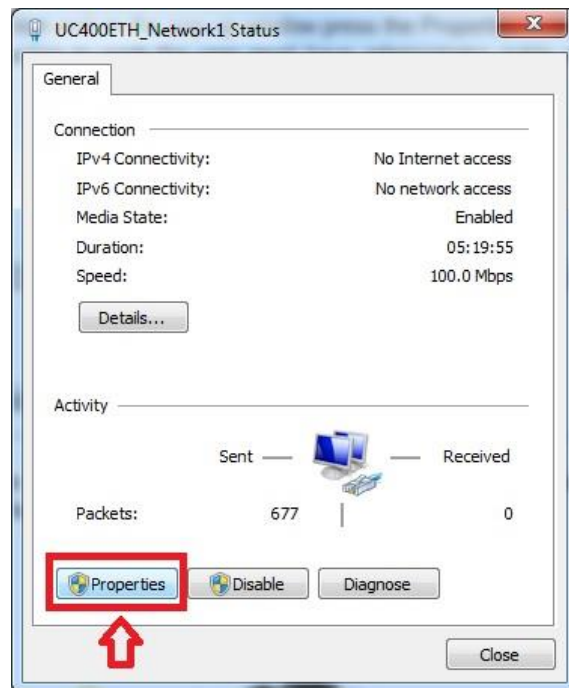

Figure 16: Network Properties
- 5- After finding and optionally renaming the connection it is time to setup the network parameters. To setup the connection with direct cable connection click on the name of the connection and on the pop-up window press the Properties button. Please note that for this action to work the user must have administrator rights in the Windows account. See Figure 16.